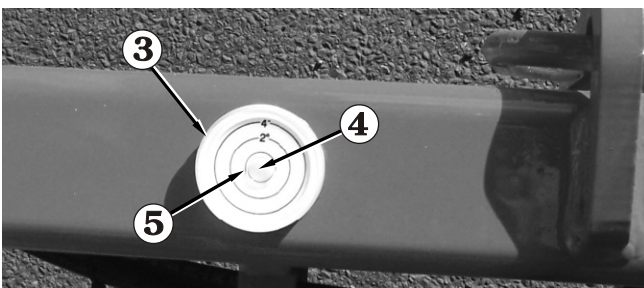

Figure 8.22
3. Visually check the bubble level 3 to determine which stabilisers must be further extended to level the platform (see Figure 8.22).
4. Lower the appropriate stabilisers just enough to center the bubble 4 (see Figure 8.22). When the **Lift Indicator Light** 6 (see Figure 8.23) comes on, the platform can be safely raised.